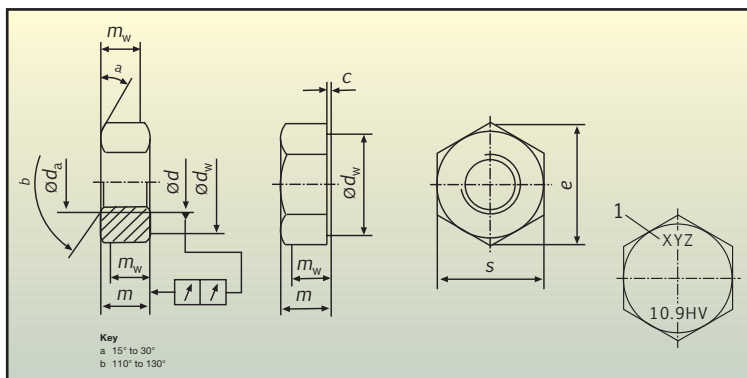

Figure 2 Part 4: Dimensions of nuts.
- Nuts are to be style 1 EN ISO 4032, thread length to be per ISO 888 (as per figure 2 below).